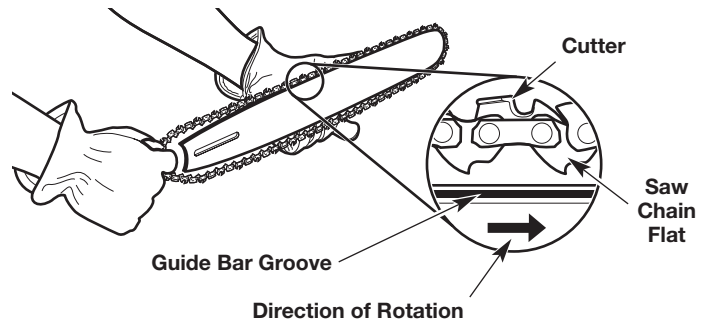
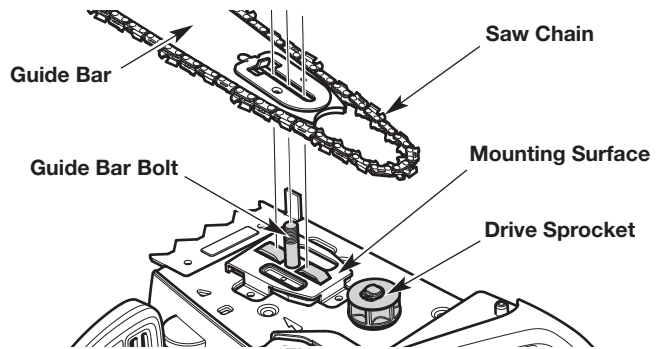

Fig. 44
Fig. 45
3. Carefully remove the saw chain and guide bar (Fig. 45).
3. Fit the saw chain into the guide bar groove (Fig. 44). Make sure the cutters point in the correct direction of rotation (Fig. 44). Keep a loop of saw chain at the back end of the guide bar (Fig. 44).
4. Hold the saw chain and guide bar together in position over the unit. Loop the saw chain around the drive sprocket and install the guide bar onto the guide bar bolt (Fig. 45). Make sure the guide bar is flush against the mounting surface (Fig. 45). Make sure the flats on the saw chain are in the grooves on the drive sprocket (Fig. 44).